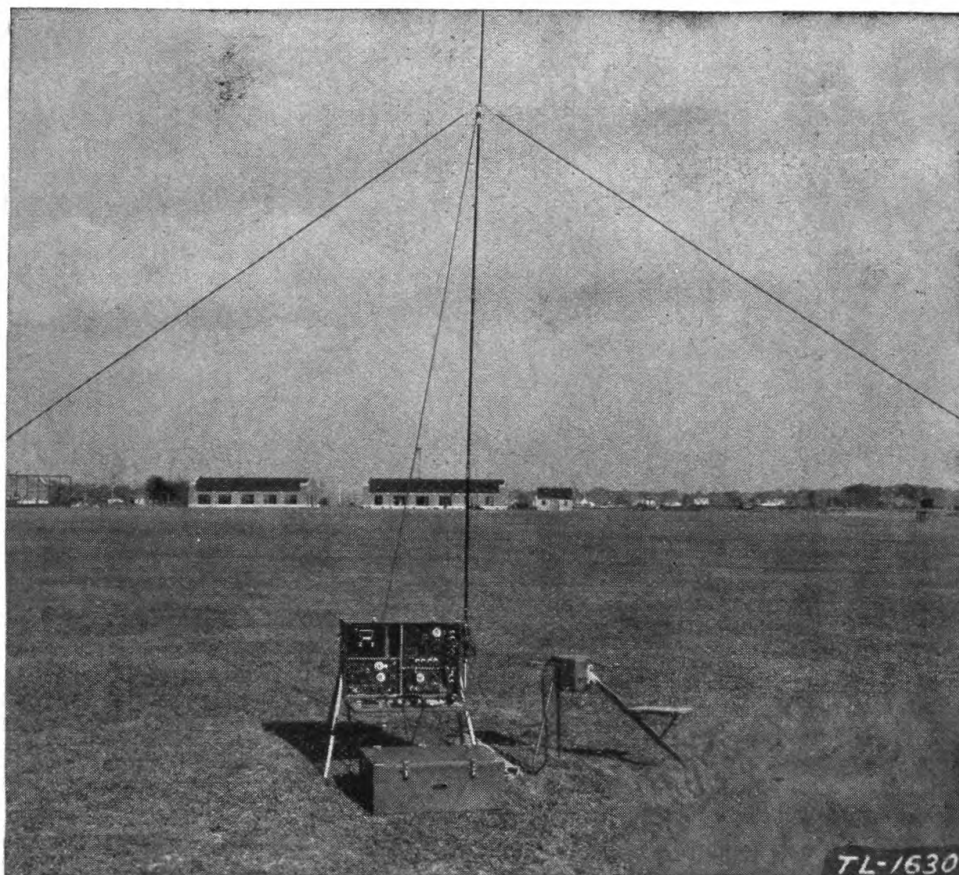

FIGURE 1.—Radio set SCR-178 set up for operation.
2. **Description.**—*a. Radio set SCR-178 (fig. 1).*—The radio set SCR-178 is a portable, low power, high frequency transmitter and receiver. It has a sectional mast antenna of steel tubing approximately 28 feet in height when erected. Power for the transmitter is furnished by a hand generator and that for the receiver by dry batteries.